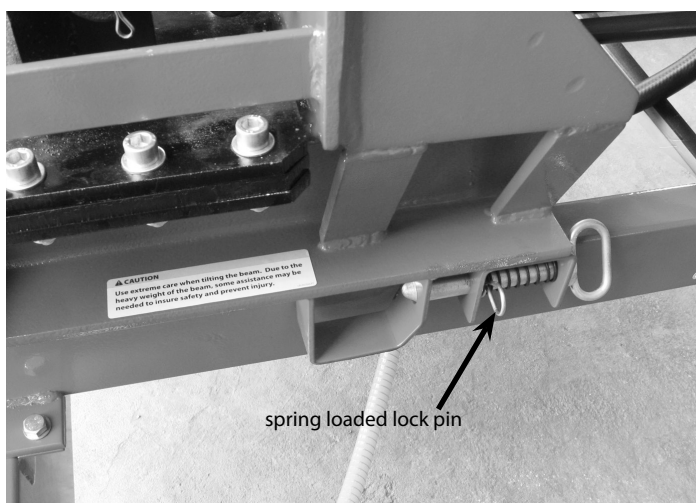

Figure 10
13. Lower the beam and cylinder assembly into the horizontal position making sure the spring loaded lock pin on the tongue engages the beam, securing it to the tongue. **SEE FIGURE 10.**